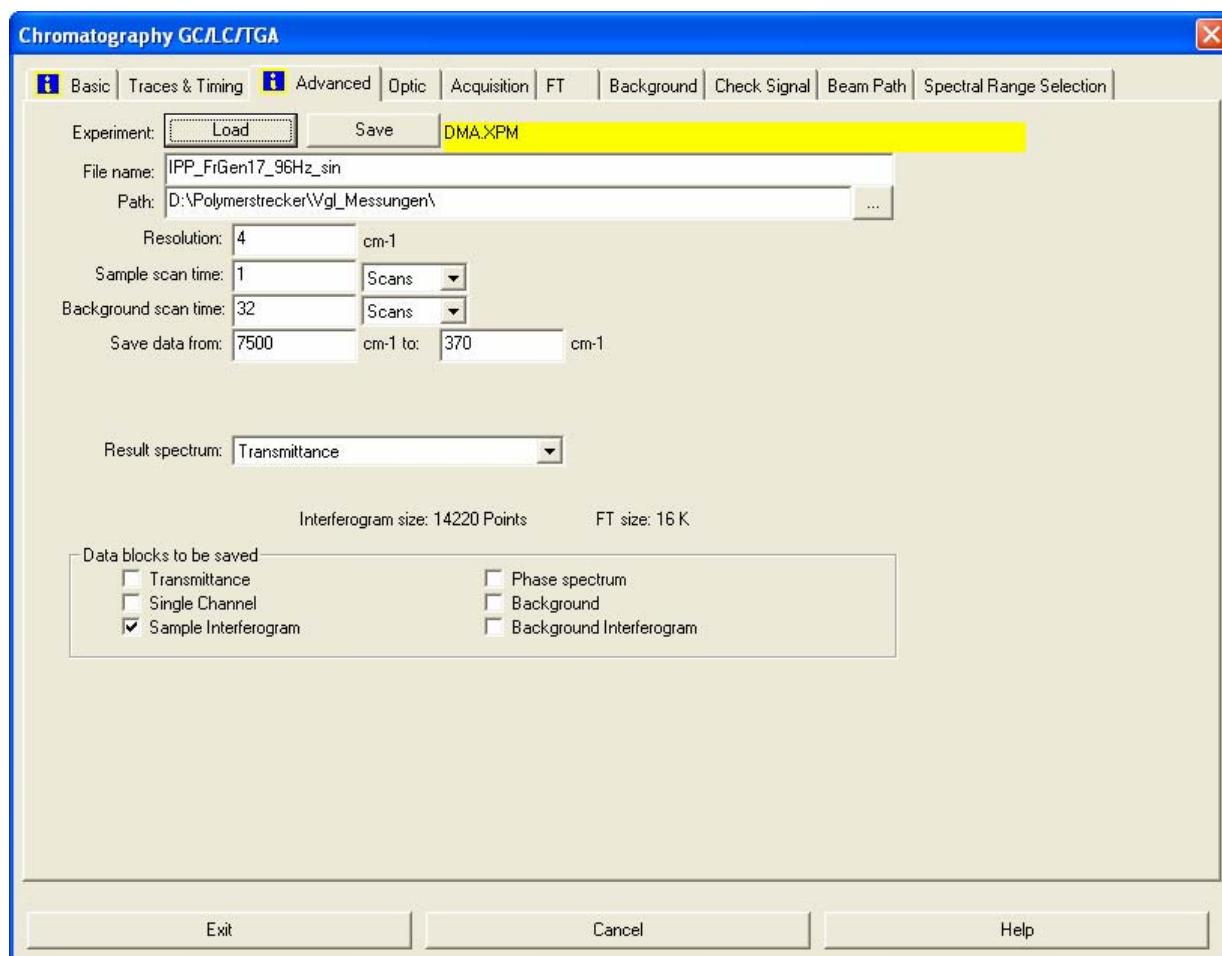

Fig. 6: Chromatography dialog window – Advanced page
- Click on the “Advanced” tab. (See fig. 6.) This page is identical to the “Advanced” page of the “Measurement” dialog you probably know from standard FT-IR experiments (e.g. transmittance, reflectance).